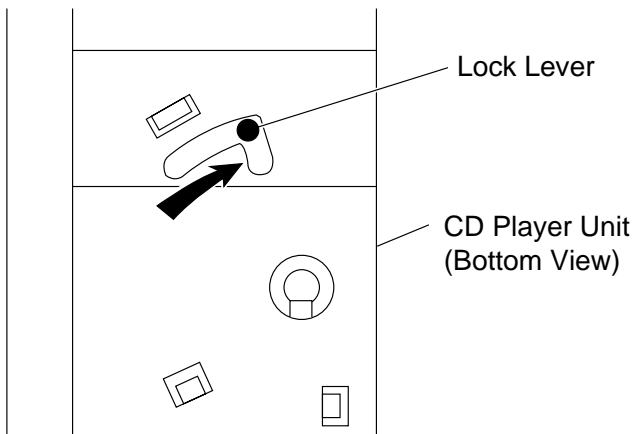

Figure 11-1
**Note 1:** How to open the changer manually. (Fig. 11-1)